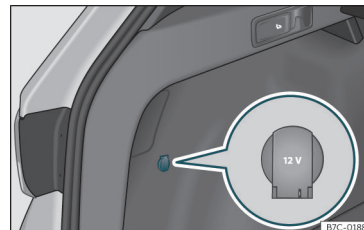

Fig. 134 Detailed view of the side trim in the boot: 12-volt power socket.
- Lift the power socket cover >>> **Fig. 134.**